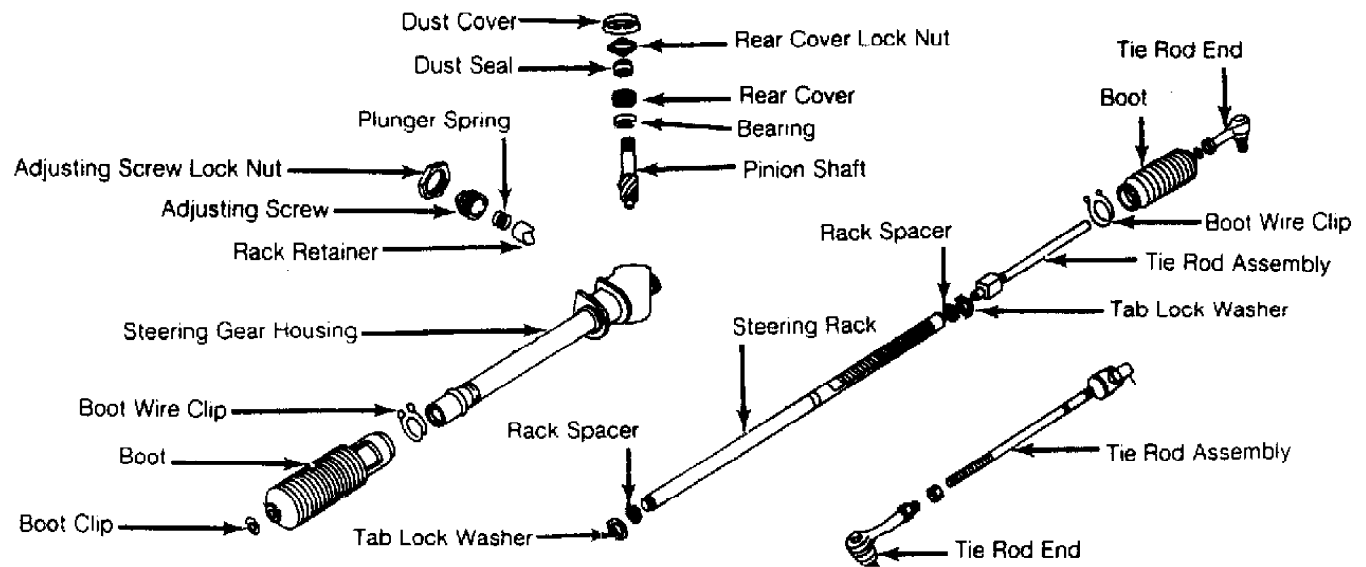

Fig. 1: Exploded View Of Manual Rack & Pinion Steering Gear
2) Remove adjusting screw lock nut and adjusting screw. Remove plunger spring and rack retainer from housing. Remove dust cover from top of rear cover. See Fig. 1.